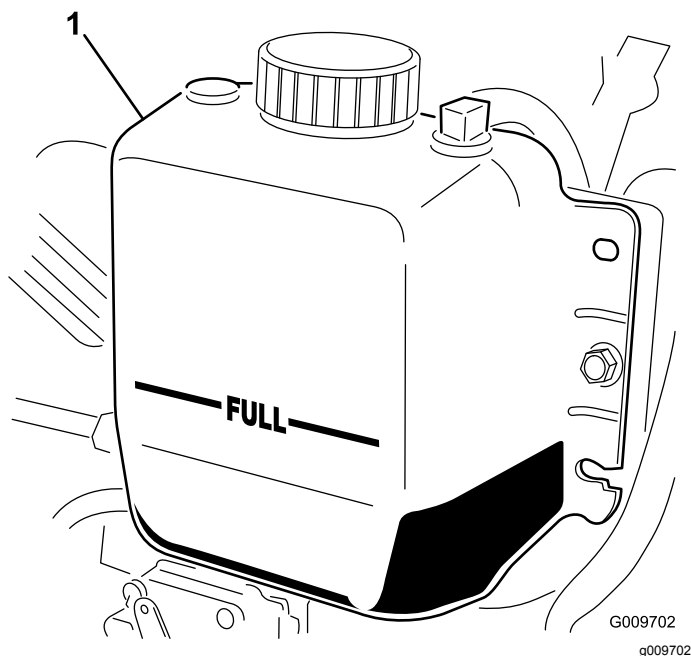

Figure 111
3. Check the coolant level in the radiator. The radiator should be filled to the top of the filler neck and the expansion tank filled to the FULL mark (Figure 111).